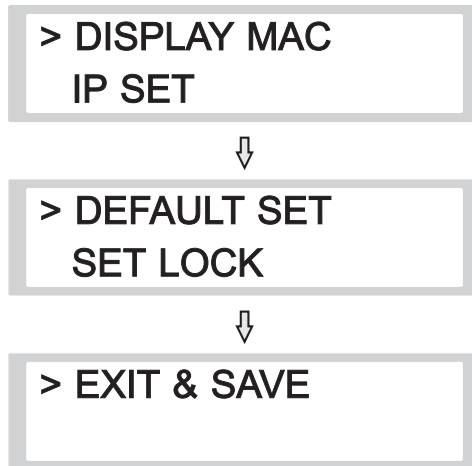

Fig. 8
3. Operation of Main Functions, Fig. 8